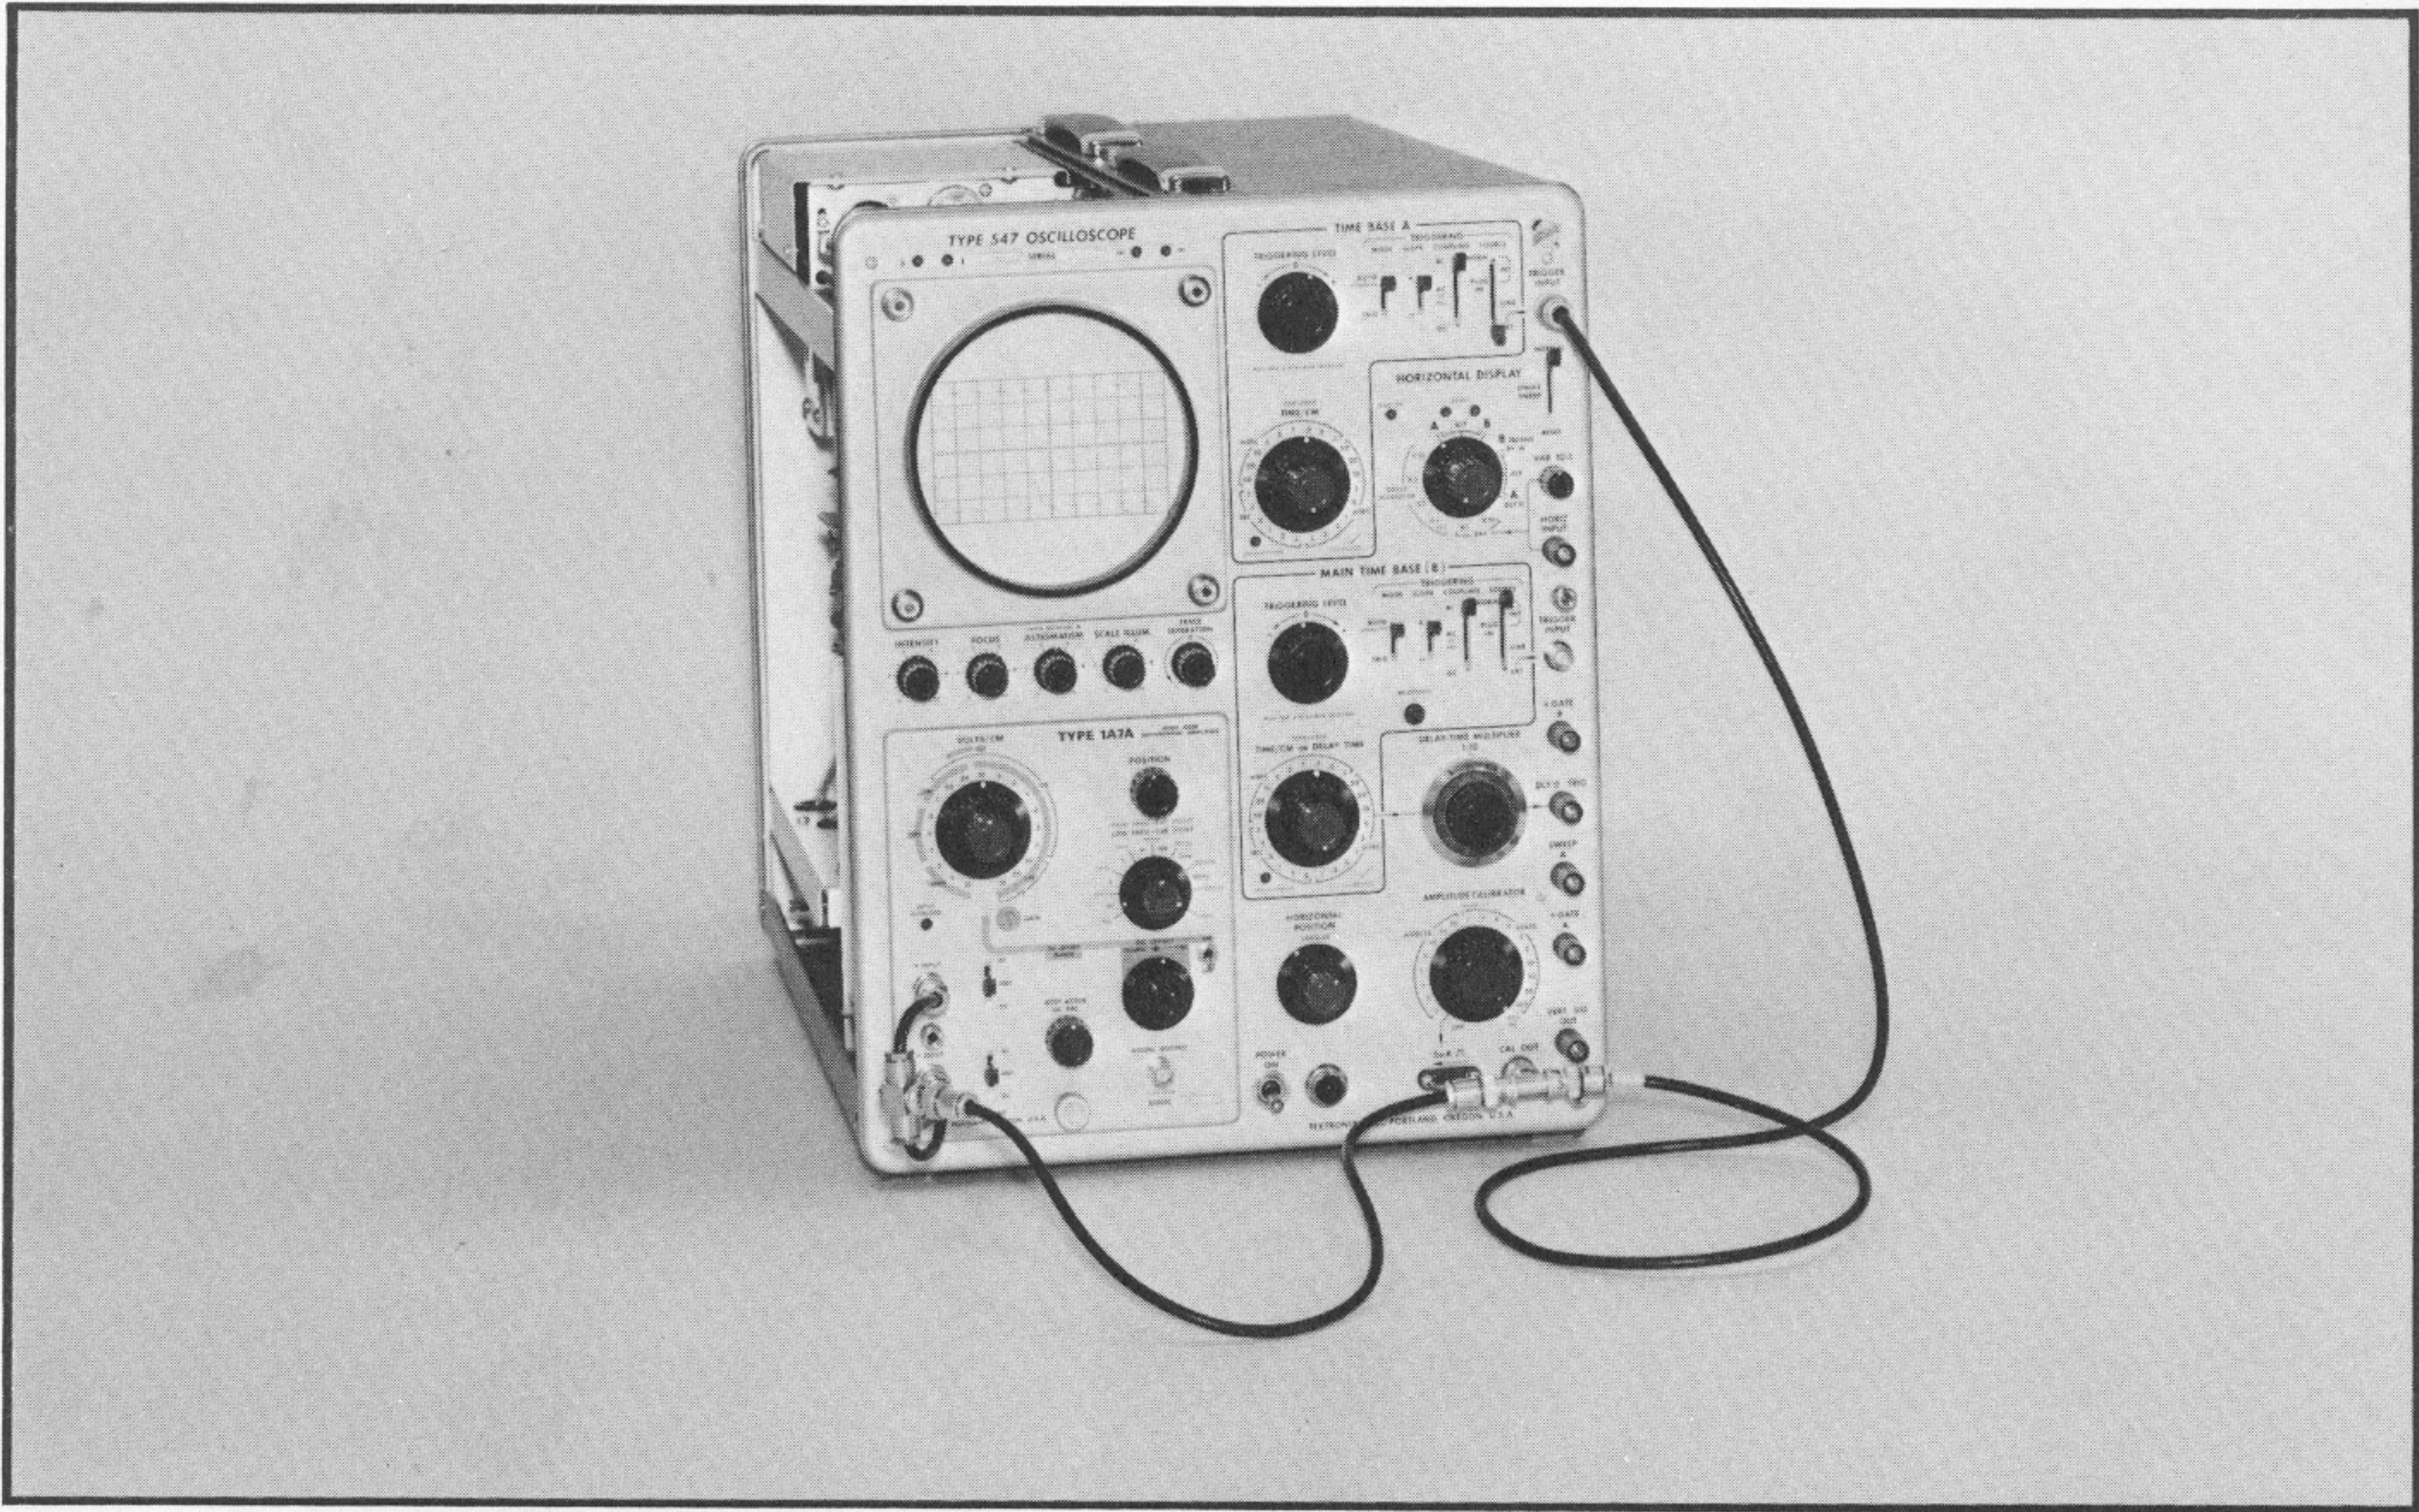

Fig. 5-20. Test equipment setup for step 17.
- a. Test equipment setup is shown in Fig. 5-20.